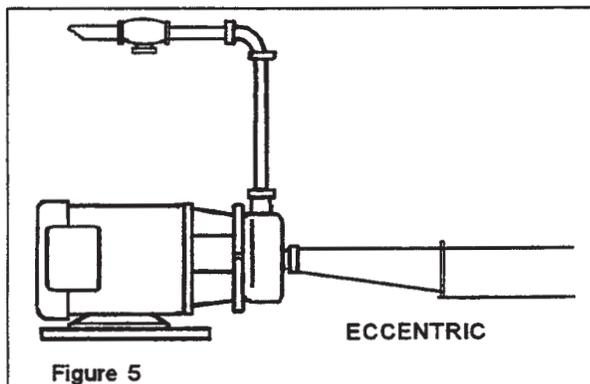

Figure 5
- If a reducer is connected to inlet, use eccentric type (Figure 5) to prevent problems due to trapped air.
- Check pump rotation following electrical installation. Correct rotation is counter clockwise when facing pump inlet connection. (Figure 5)